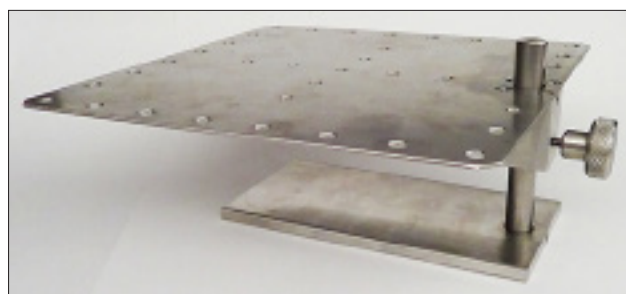

Figure 14.5a: 3D Specimen Stand - All 5 stands included in the kit must be placed in the chamber.
- Stands (Figure 14.5a) are available to mount three-dimensional parts so that the top of the part is at the normal specimen tray height.